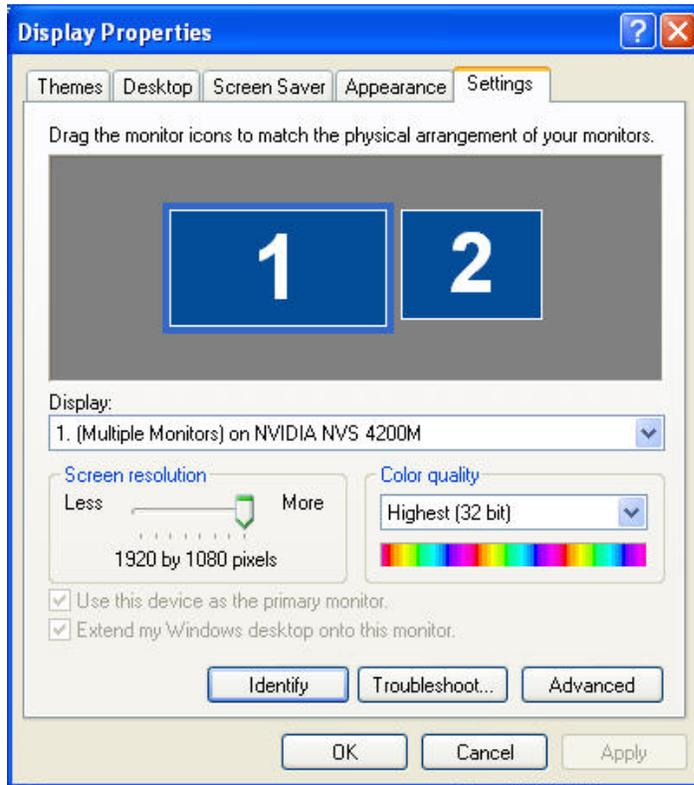

Figure 2-2 Dialog Box to Identify the Monitors
3. Click on the **Settings** tab and then on the **Identify** button (Figure 2-2).